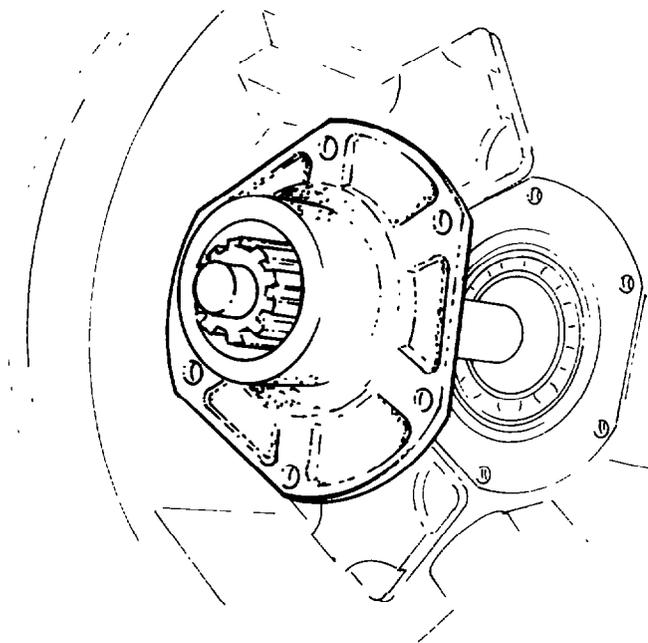

Fig. 173 — Removing Main Driving Pinion Bearing Cover
- k. Remove the retaining bolts from the main driving pinion bearing cover and remove the cover (see fig. 173).